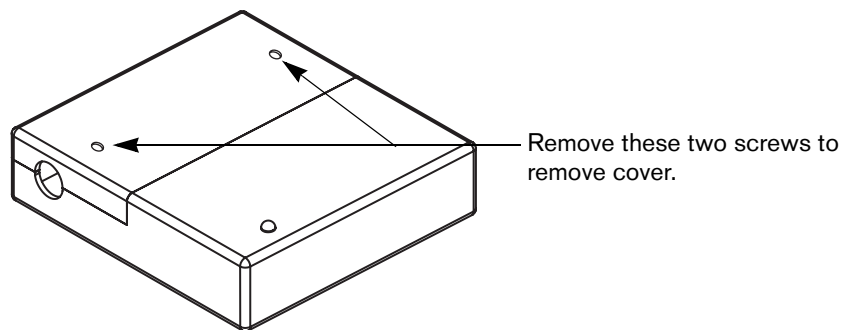

Figure 12: If installed, remove cover
2. Remove the cover on each wired floor unit by unscrewing two screws. You will need a Phillips-head (crosshead) screwdriver to remove the screws. Place the screws and covers in a safe location; you will re-install them later. See Figure 12.